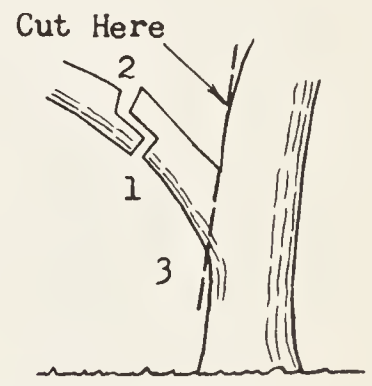

Figure 7
- 4.3 When removing a large limb, first undercut about one foot from where the finished cut is to be made. This will prevent splitting and tearing the wood and bark of the trunk. Next cut from above, and last, remove the stub. These steps are shown in Figure 7 of Exhibit A. When removing large overhanging limbs, it is advisable to rope the limb to a higher part of the tree so that in falling it will not drop into the wires.